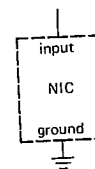

Figure 4.93
(7) Consider the circuit in the preceding problem as the 2-terminal black box (Fig. 4.93). Show how to make a dc amplifier with a gain of -10 . Why can't you make a dc amplifier with a gain of $+10$? (Hint: The circuit is susceptible to a latchup condition for a certain range of source resistances. What is that range? Can you think of a remedy?)